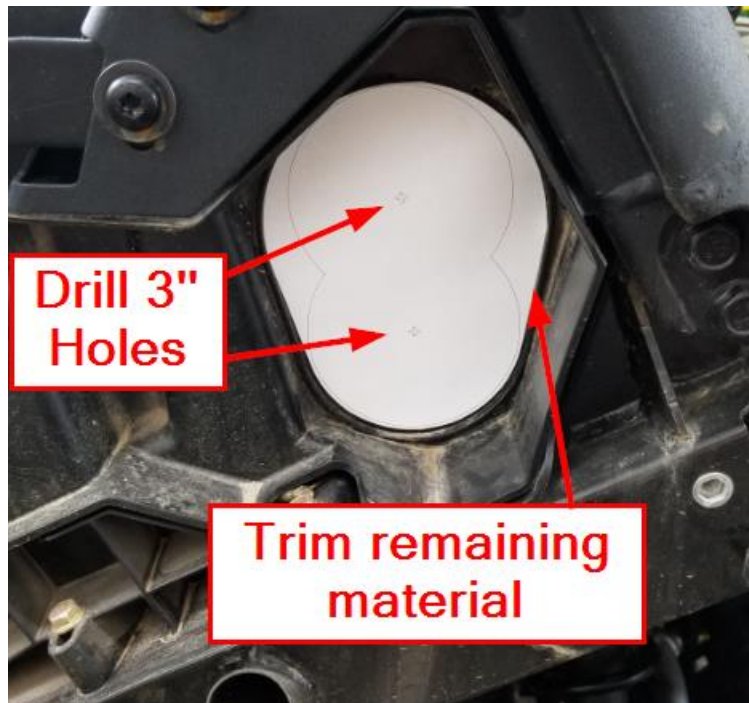
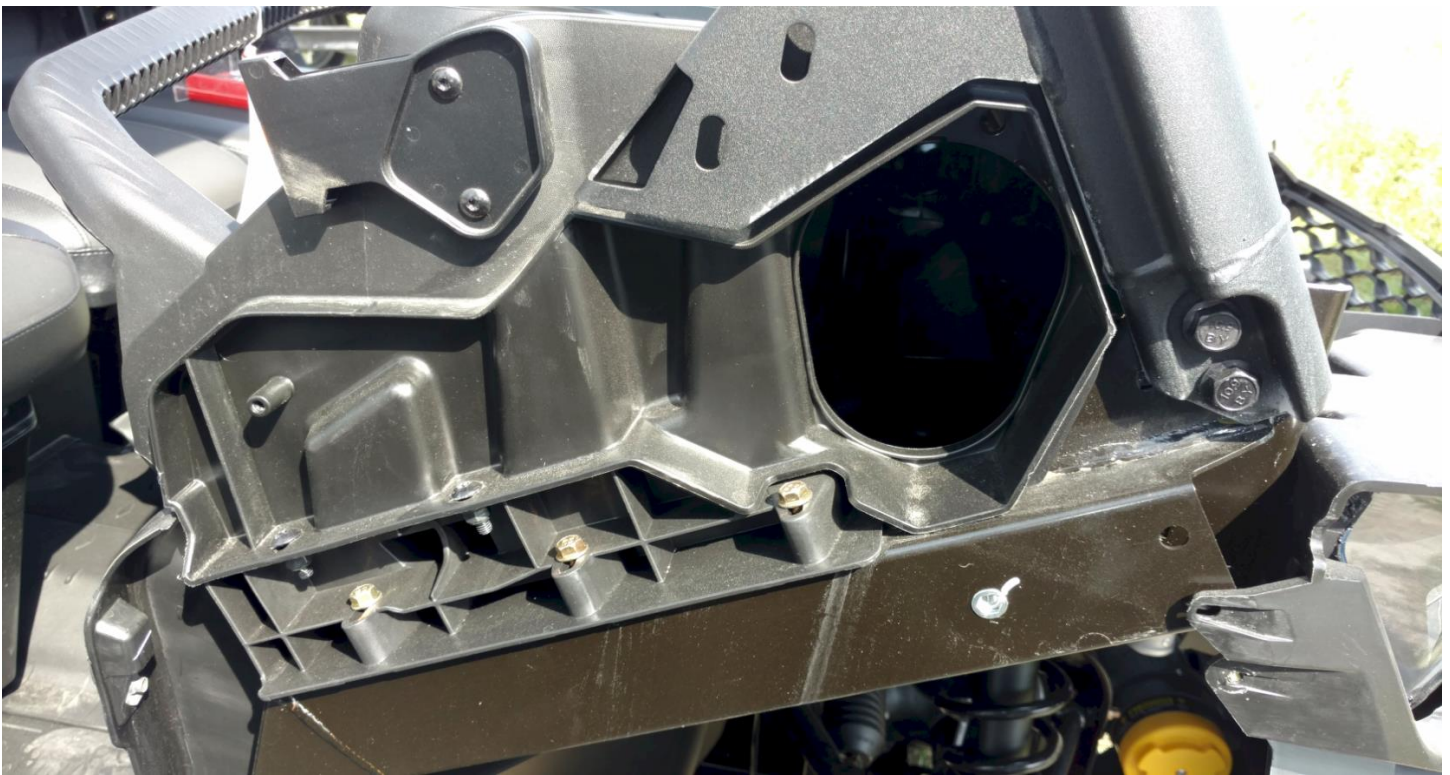

Figure 11
Figure 12
- a. Using the Side Template, position the template as shown in Figure 11 (Passenger Side). Transfer the hole centers to the plastic, remove the template and use the included 3" Hole Saw and Pilot Bit to drill two 3" holes. Use a sharp razor blade to remove the remaining material until the hole matches the raised lip as shown in Figure 12. Repeat on the driver side plastic.